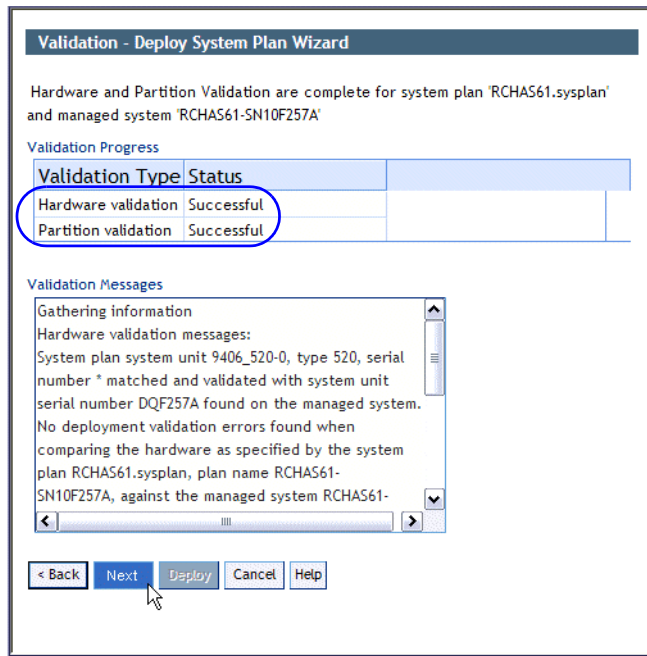

Figure 4-26 Example of successful validation
- The third example is related to a system plan which gets successful validation. Figure 4-26 shows a successful validation for both hardware and partition steps. You can review all the messages in the Validation Messages panel, then click **Next** to continue.